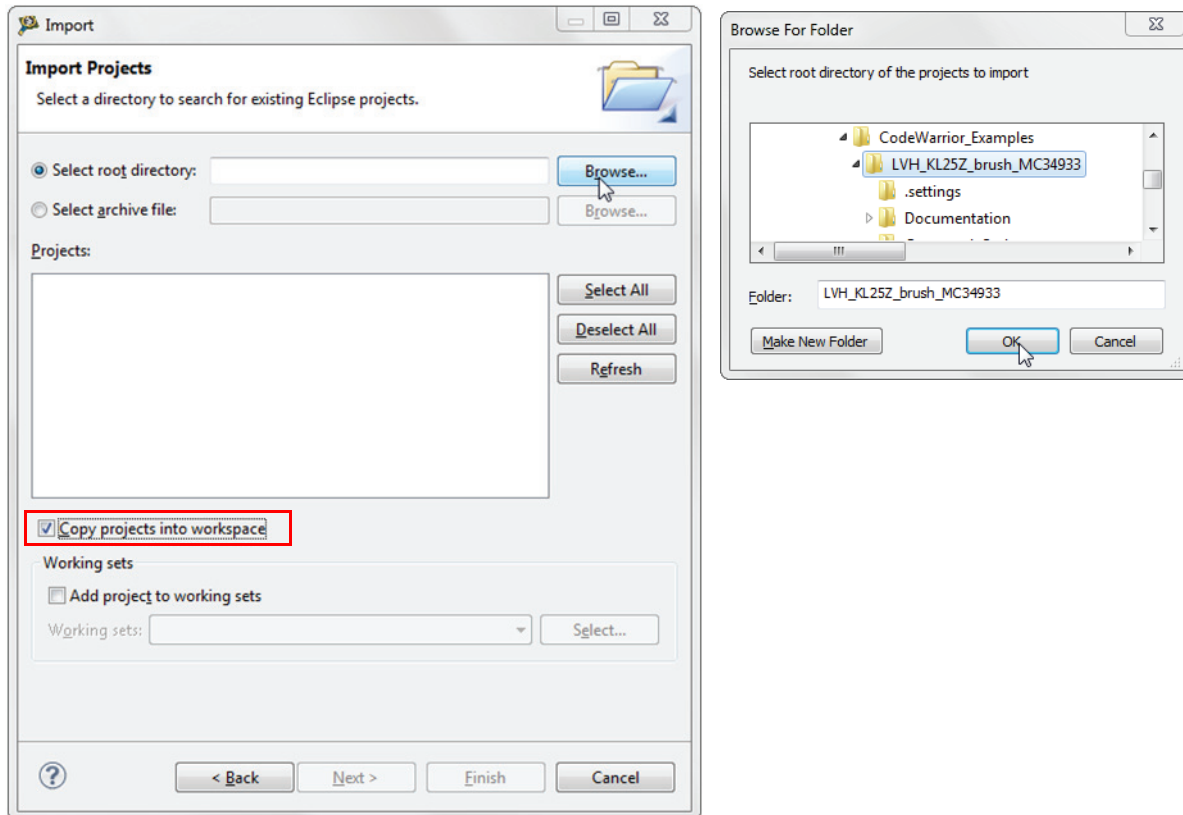

Figure 8. Example Project Import
2. Locate the example in folder: LVHBridge_PEx_SW\CodeWarrior_Examples (see Figure 8, which shows LVH_KL25Z_brush_MC34933 as the imported project). Then click **Finish**.